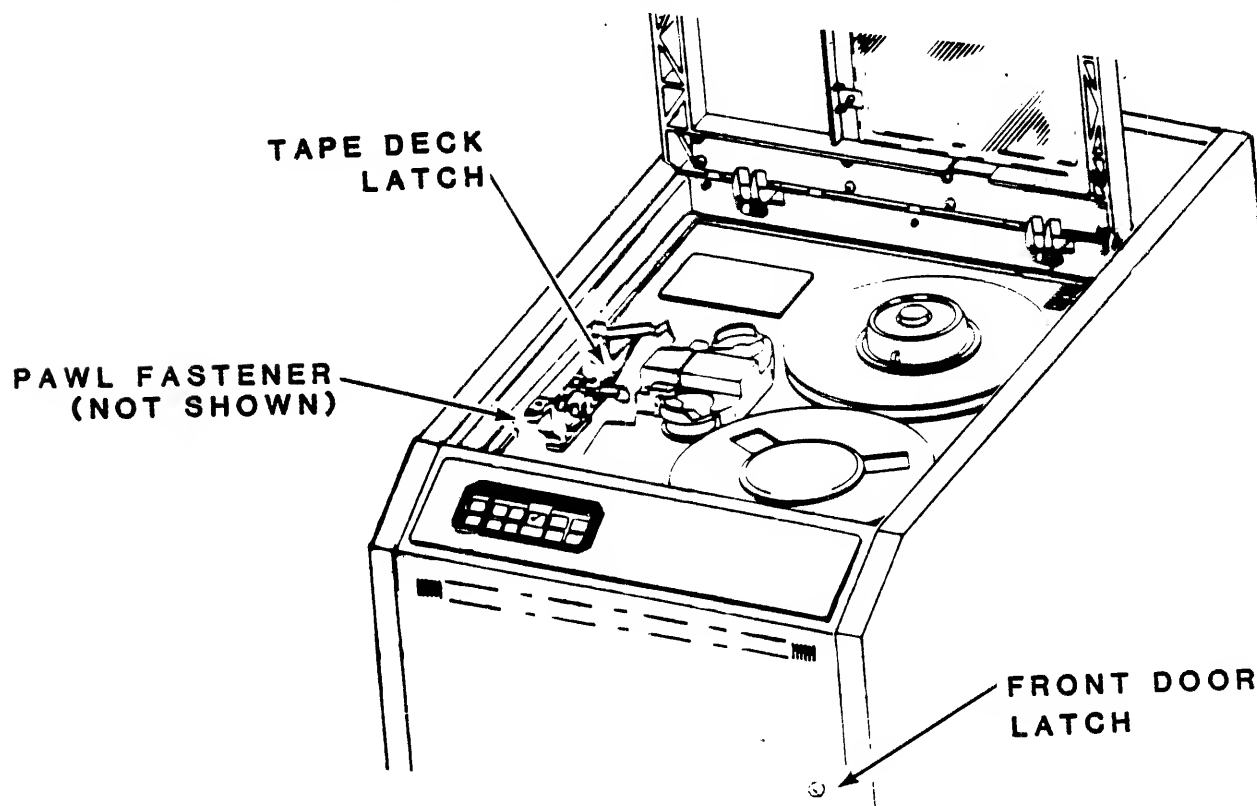

Figure 3-19. TAPE DECK ACCESS
14. Open the front dust cover door latch with a hex wrench. See Figure 3-19.
17. Using a straight slot screwdriver, rotate the pawl fastener on the left side of the tape deck one-half turn counterclockwise to release the tape deck. Rotate the fastener six more turns counterclockwise to disengage the pawl fully. See Figure 3-19.
18. Reach into the left side of the cabinet, grasp the tape deck latch, and pull the ring out to release the catch. See Figure 3-19.